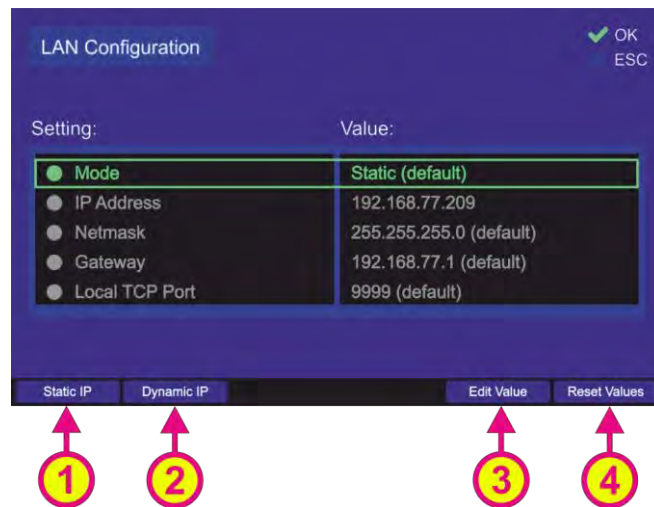

Fig. 145 LAN configuration menu
Following sub-menu will appear (s. Fig. 145).
Pressing the hotkey “Reset Values” (s. Fig. 145, position 4) will set all menu items to the default values.
- IP address assignment can be changed directly using the hotkeys “Static IP” and “Dynamic IP” (positions 1 and 2, s. Fig. 145), so that the value of this setting is changed without opening the dialog, or it can be set over the corresponding dialog after pressing the hotkey “Edit Value” (s. Fig. 145, position 3) while this menu point is marked, the following dialog opens (s. Fig. 146).
- For changing the IP address press the hotkey “Edit Value” while this menu point is marked (s. Fig. 145, position 3). Following dialog opens (s. Fig. 147).
- For changing the netmask press the hotkey “Edit Value” while this menu point is marked (s. Fig. 145, position 3).
- For changing the gateway press the hotkey “Edit Value” while this menu point is marked (s. Fig. 145, position 3).
- For changing the port press the hotkey “Edit Value” while this menu point is marked (s. Fig. 145, position 3).